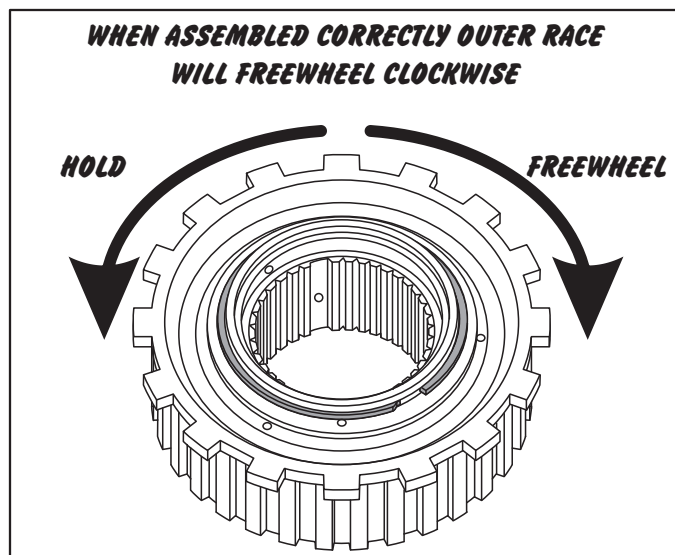

Figure 54
10. Install the low roller clutch inner race retaining snap ring into the groove above the spacer as shown in Figure 54 and 55.